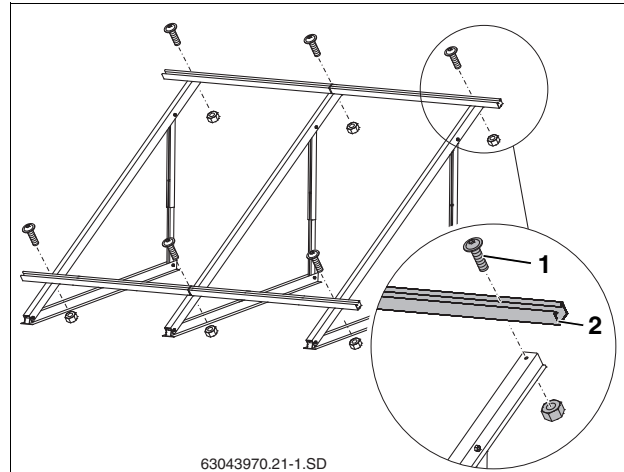

Fig. 34 Installing profile rails (for two Portrait collectors in this example)
- ▶ Lightly tighten the pre-assembled profile rails (Fig. 34, [2]) with M8 x 20 bolts (Fig. 34, [1]) so that the profile rails can still be shifted.